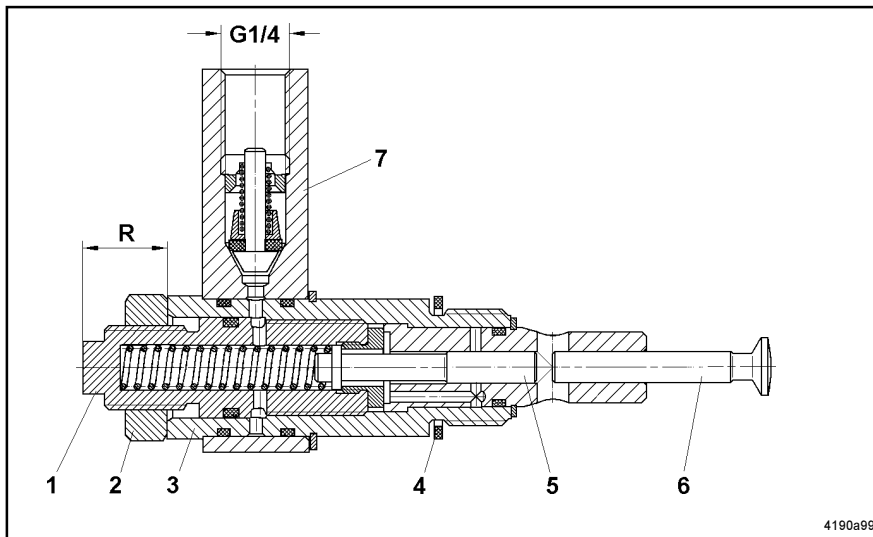

Fig. 4 - Sectional drawing of the pump element
- \* Loosen counter nut 2 (Fig. 4) and, using a second key, simultaneously keep threaded sleeve 3 from turning.
- The "R" dimension shown in Fig. 4 indicates the approximate lubricant output range:
- \* Once the pump is filled with grease, dig a whole in the grease with a suitable object up to the eccentric ring (Fig.4).
- \* Check whether the pump element is equipped with a gasket (see item. 4, Fig. 4).
- First screw the pump element in by hand and then tighten it at the screwed plug 3 (Fig. 4) using a fork wrench SW27. Tightening torque: 30 - 35 Nm
- \* Apply the fork wrench at the screwed plug (3, Fig. 4) of the pump element and carefully unscrew the pump element.